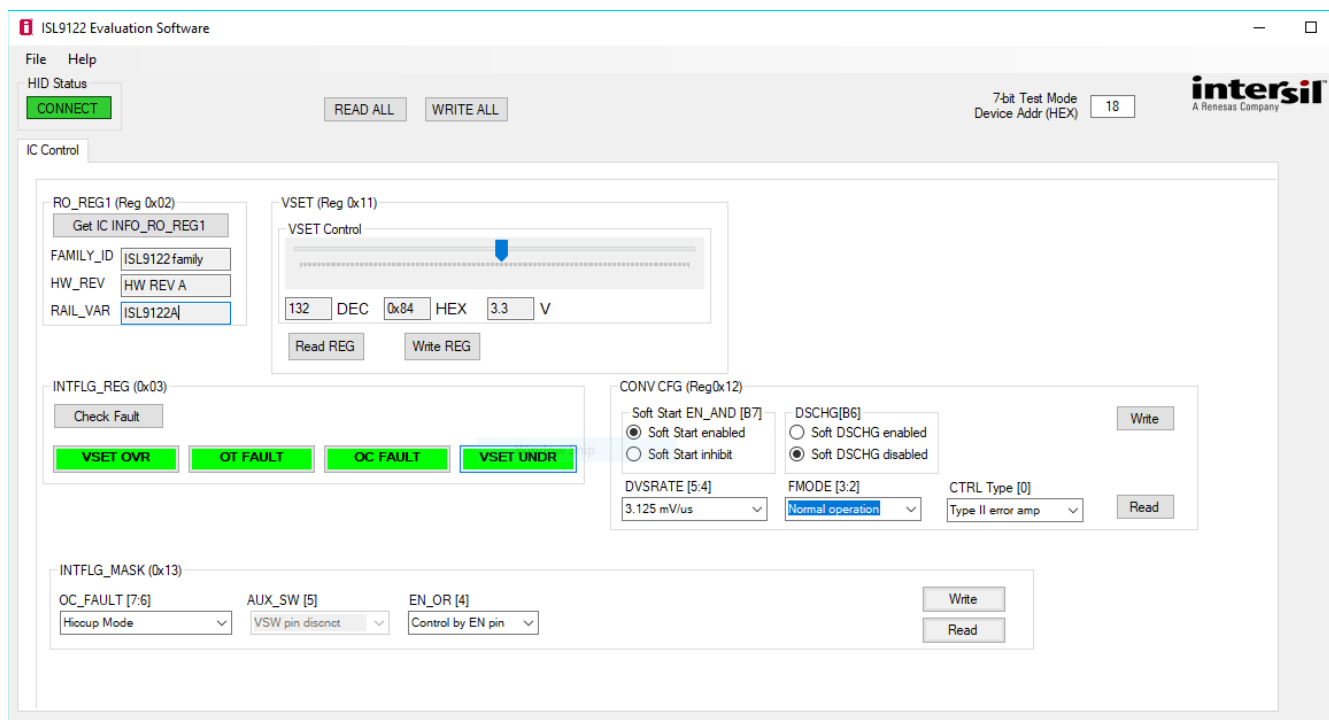

Figure 3. ISL9122 Evaluation Software Window
6. When launched, the ISL9122 evaluation software detects the USB - I²C interface, and the **CONNECT** button turns green (see Figure 3). If a connection is not established, this button is brown. Select this button once to